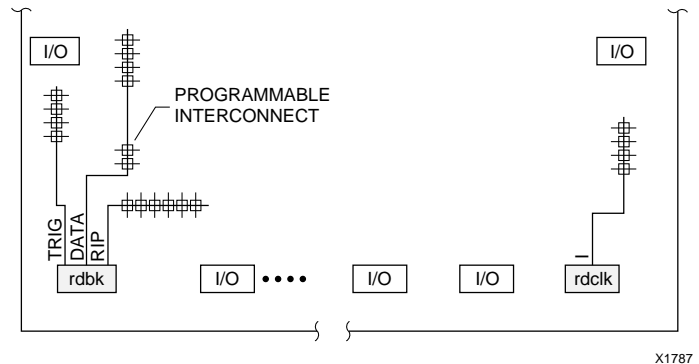

Figure 5. The XACT Readback Primitive
**rdbk.TRIG** and the **rdbk.DATA** signals are connected. The **rdclk.l** pin is connected to the CCLK pin, if not connected otherwise. See Figure 5.